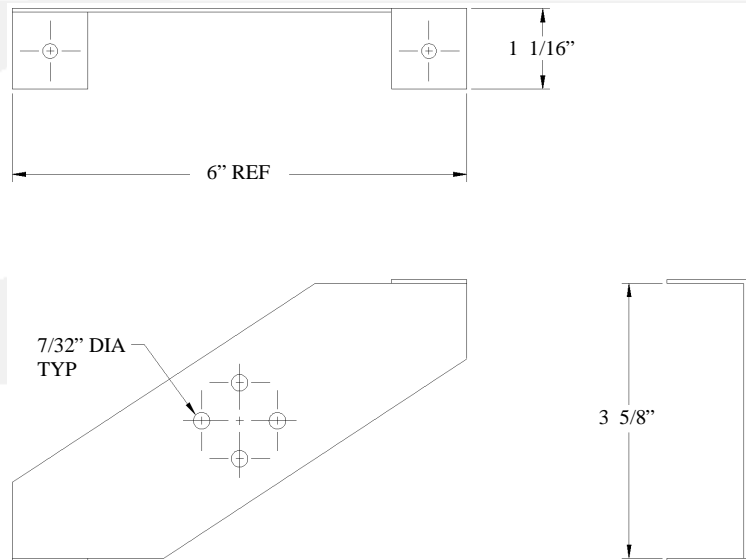

Figure 3
- If the material in process is over 10 mil, you need to install two ionizers, one on either side. Both should be mounted on NRD Z brackets, separately available from NRD LLC. Secure the brackets on your equipment so the web is centered between the two ionizers. (see Figure 3)